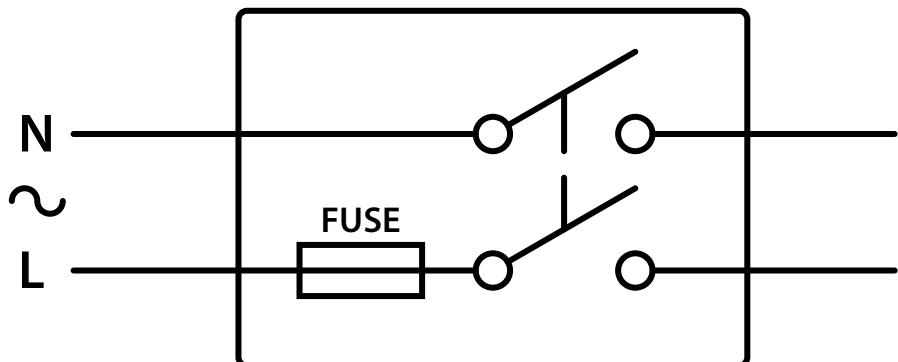

Fig.19
- Connecting the system to the mains through an **all-pole circuit breaker** (refer to Fig.19) which shall have contact separation of at least 3mm in each pole and shall disconnect all poles simultaneously.